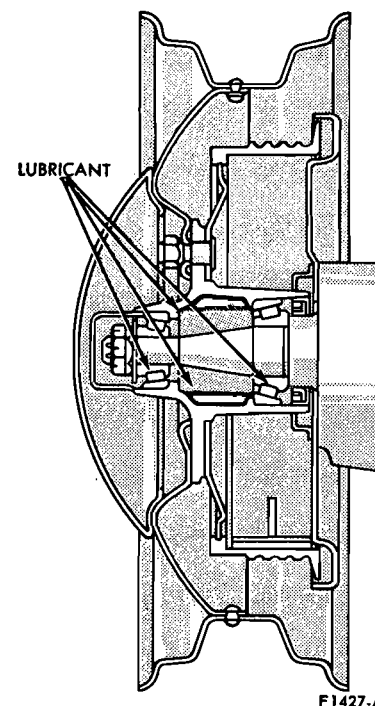

FIG. 4 Front Wheel Hub Lubrication
9. Pack the inside of the hub with specified wheel bearing grease. Add lubricant to the hub only until the grease is flush with the inside diameter of both bearing cups (Fig. 4).
6. Pack the inside of the hub with specified wheel bearing grease. Add lubricant to the hub only until the grease is flush with the inside diameter of both bearing cups (Fig. 4).